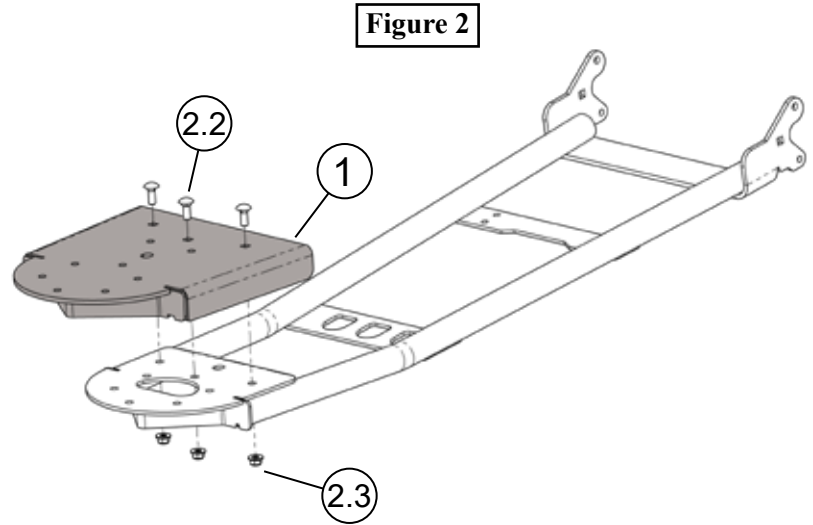

Figure 2
2. Loosely install Mid Extension (1) onto push tubes using bolts (2.1) and nuts (2.3) as shown in **Figure 2**.